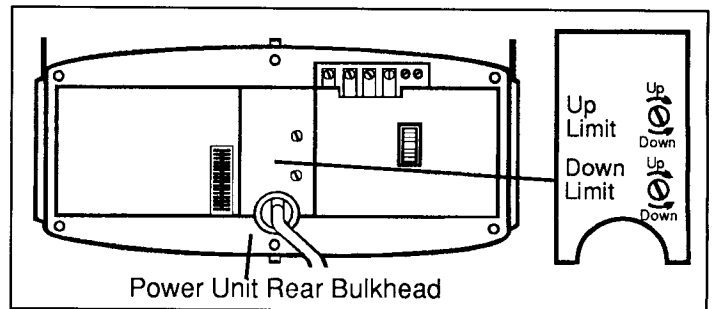

Figure 26
Step 51: To increase the "down" distance, turn the slotted "Down Limit" screw in the clockwise direction (see Figure 26). Note that each turn is equal to approximately one inch of door travel. Then estimate the number of turns required.